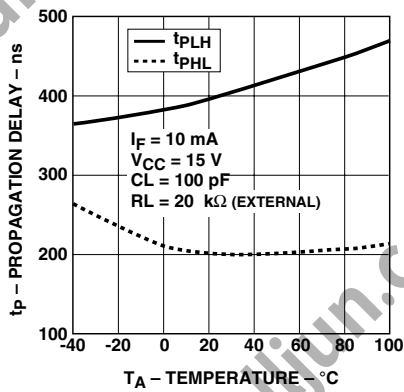

Figure 8. Propagation delay with external $20\text{ k}\Omega$ R_L vs. temperature.
- Due to tolerance of the internal resistor, and since propagation delay is dependent on the load resistor value, performance can be improved by using an external $20\text{ k}\Omega$ 1% load resistor. For more information on how propagation delay varies with load resistance, see Figure 8.